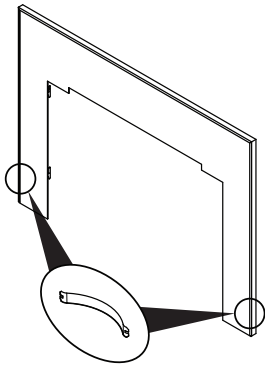

Figure 21.4
- 6. Install two steel springs on each side of the flat surround towards the bottom and the assembled trim kit (Figure 21.4).